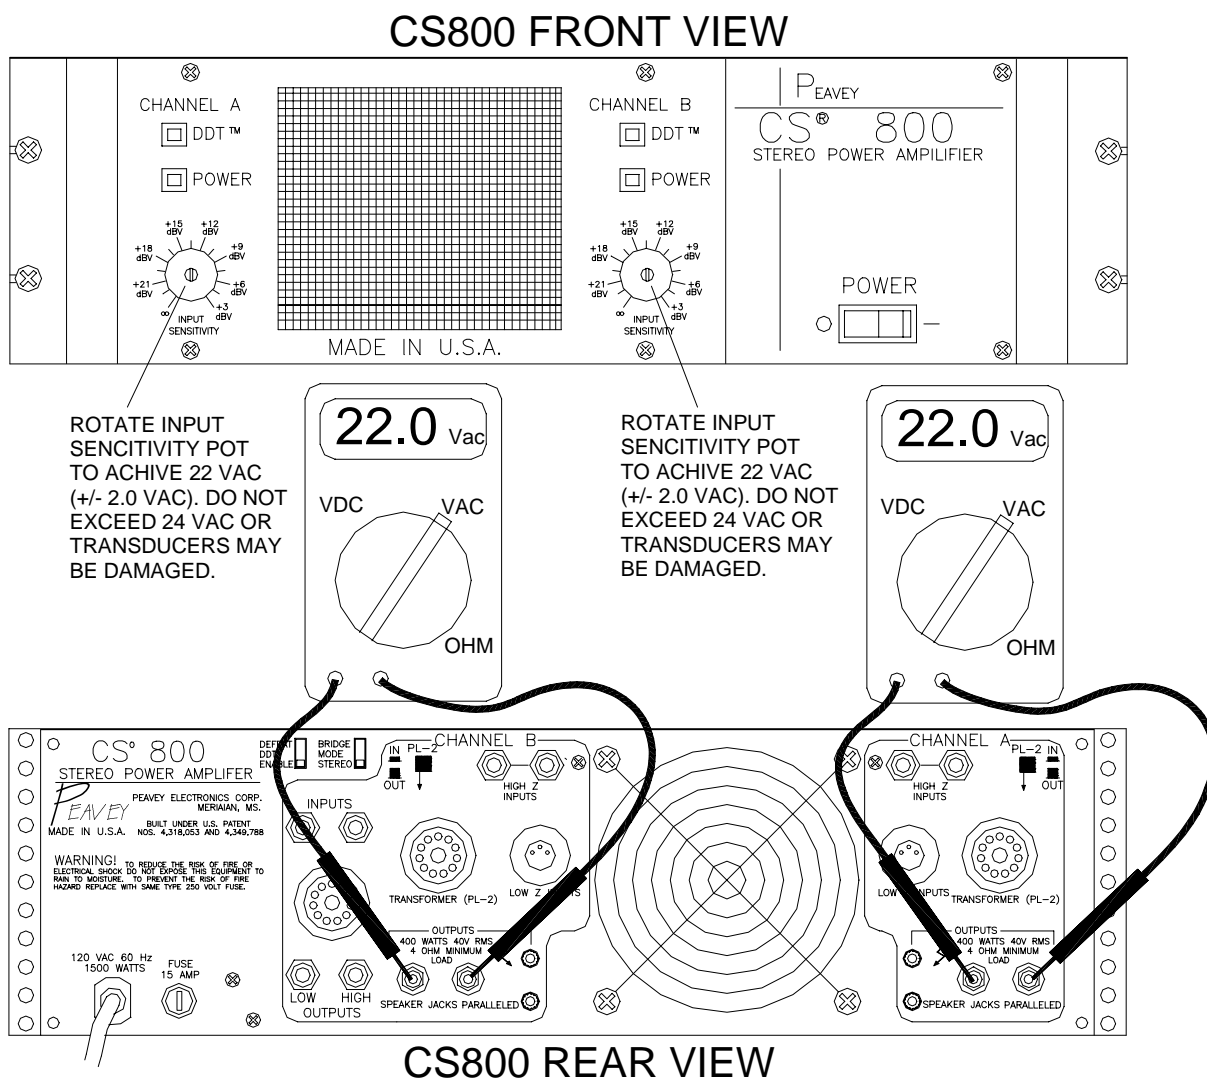

Figure 9-23 Measuring and Calibrating RASS Power Amplifier
4. Connect a True RMS voltmeter to the output binding posts of Channel A on the rear panel of the power amplifier (see Figure 9-23).
5. While the RASS is sounding at its full volume (during the vertical low mode), adjust the Channel A *Input Sensitivity* control potentiometer on the power amplifier front panel to achieve between 20 to 24 VAC RMS (see Figure 9-23). The adjustment pots have detentes that quantize the amount of change, one additional “click” of the pot may cause the voltage to go over or under the desired range. Never exceed 24 VAC RMS, this can damage the compression drivers (speakers). It is better to be on the lower side of the threshold than risk blowing out a compression driver.